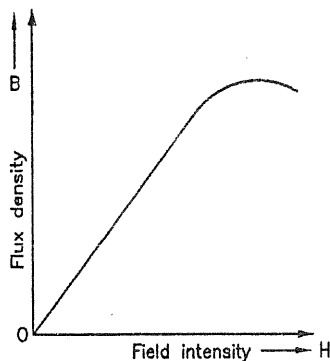

FIG. 3.4 : B-H CURVE FOR MAGNETIC MATERIALS
- A typical B-H curve for magnetic material is shown in fig. 3.4.